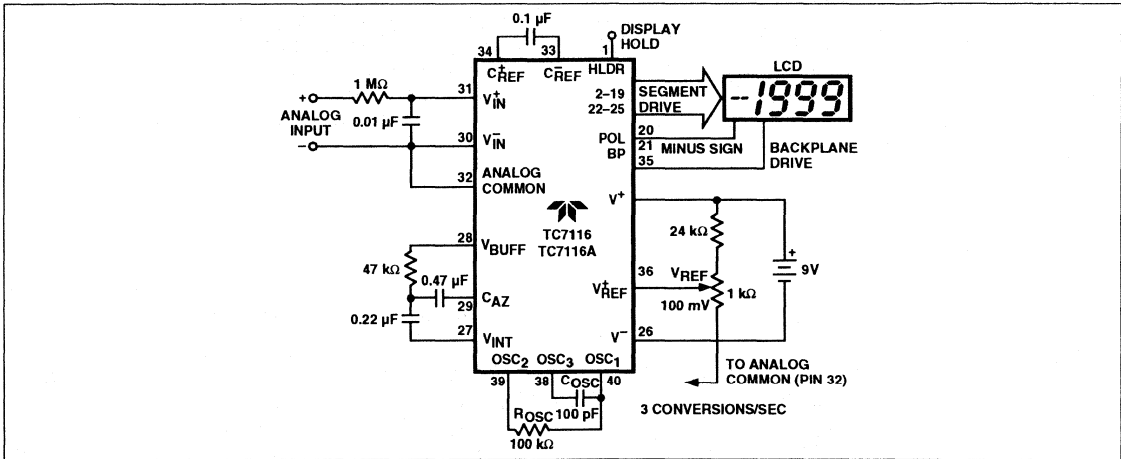
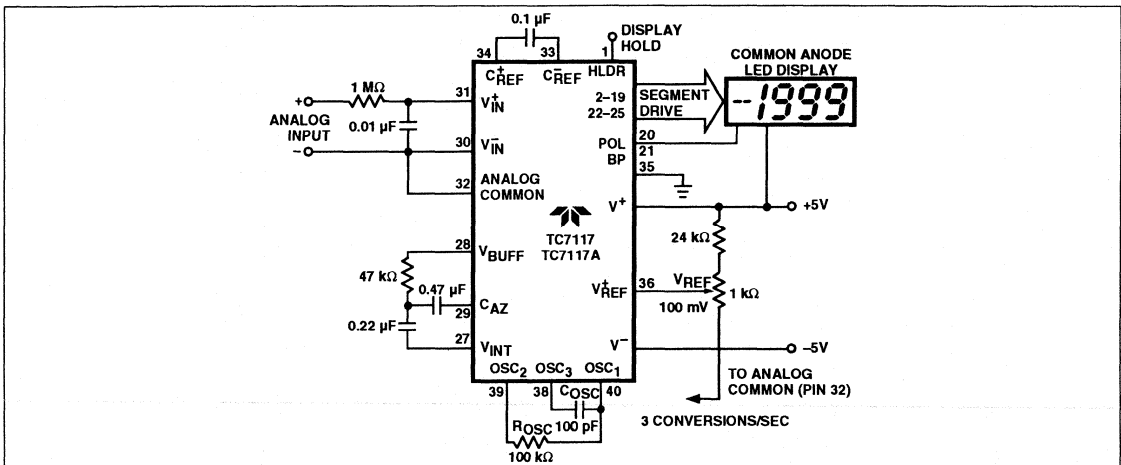

Figure 1 Typical TC7116/TC7116A Operating Circuit
Figure 2 Typical TC7117/TC7117A Operating Circuit
3. Unless otherwise noted, specifications apply at T_A = +25°C, f_{clock} = 48 kHz. TC7116/TC7116A are tested in the circuit of Figure 1. TC7117/TC7117A are tested in the circuit of Figure 2.